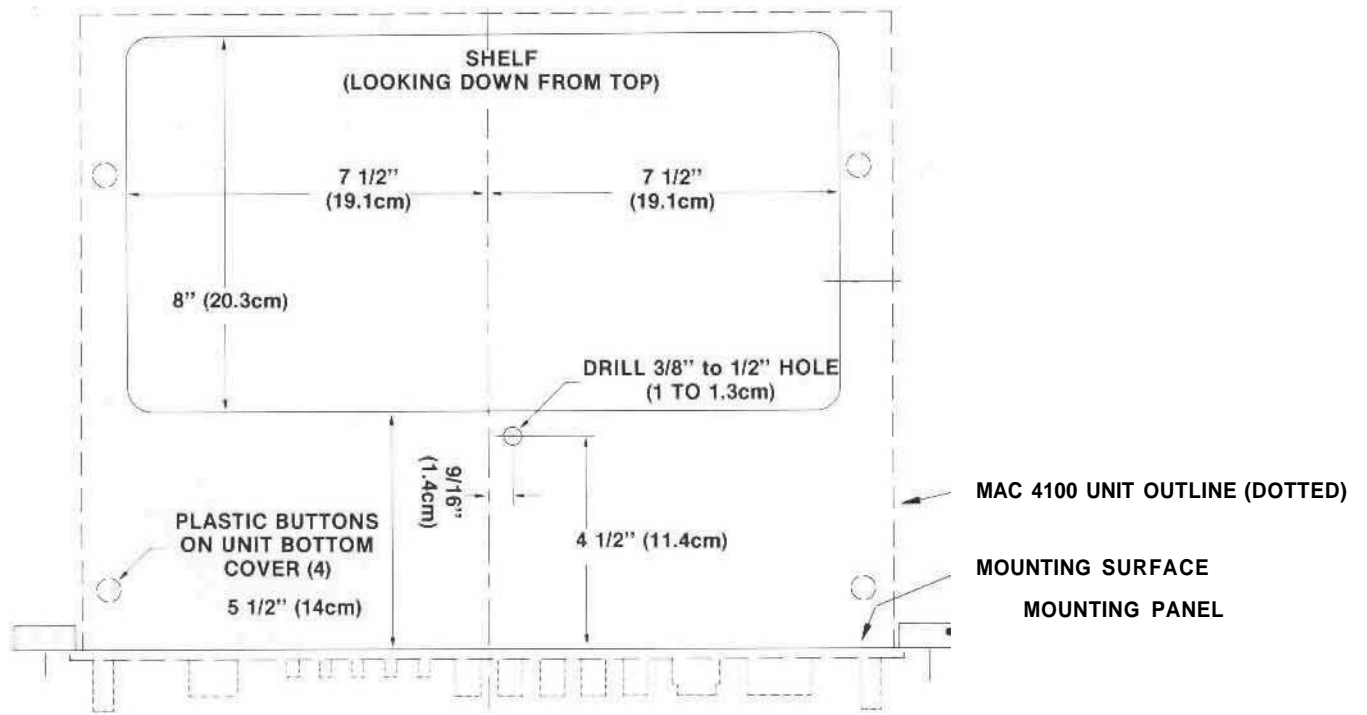
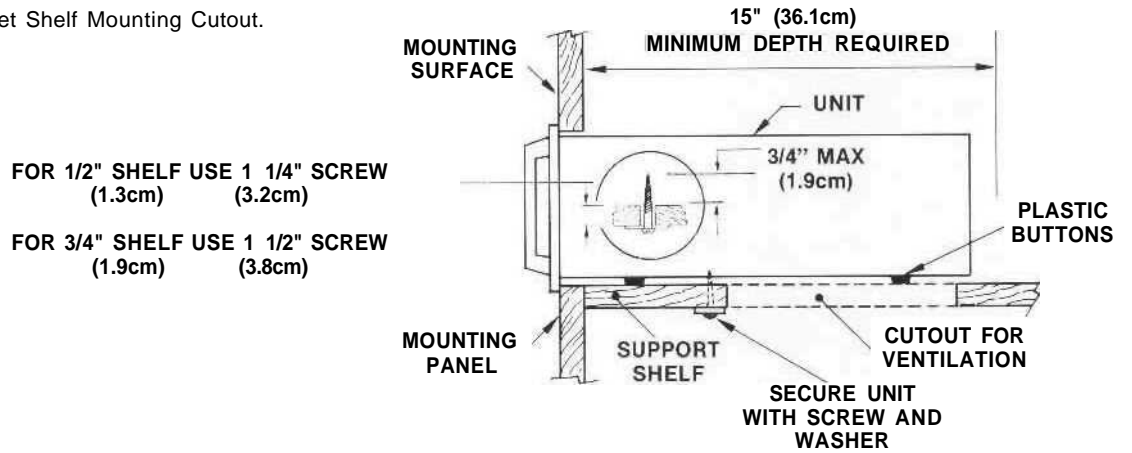

Fig. 2 Custom Cabinet Shelf Mounting Cutout.
Fig. 3 MAC 4100 Custom Mounting Profile
x 8" [20.32 cm], [see Fig. 2]. In addition, a single 3/8" to 1/2" [1 cm to 1.3 cm] screw hole [see Fig. 2 and Fig. 3] must be drilled in the shelf to secure the receiver after installation. The top of the shelf must be attached flush with the bottom of the custom panel cutout.
5. On the bottom of the receiver are the 4 plastic feet held on by screws "D" [see Fig. 4]. Remove these feet. Do not attempt to remove the 4 plastic button glides as these rest against the shelf, (see Fig. 2 and 3). At this point the receiver is ready to be custom installed.
From the front of the cabinet, thread the power cord through the opening in the cabinet panel and slide the MAC 4100 in on the shelf. Adjust the position to evenly cover the custom panel cutout. Lock the unit in place with a screw and washer inserted through the drilled hole in the mounting shelf [see Fig. 3]. Use a 1-1/4" [3.2 cm] screw for 1/2" [1.3 cm] shelf or a 1-1/2" [3.8 cm] screw for 3/4 [1.9 cm] shelf. Do not use longer screws.